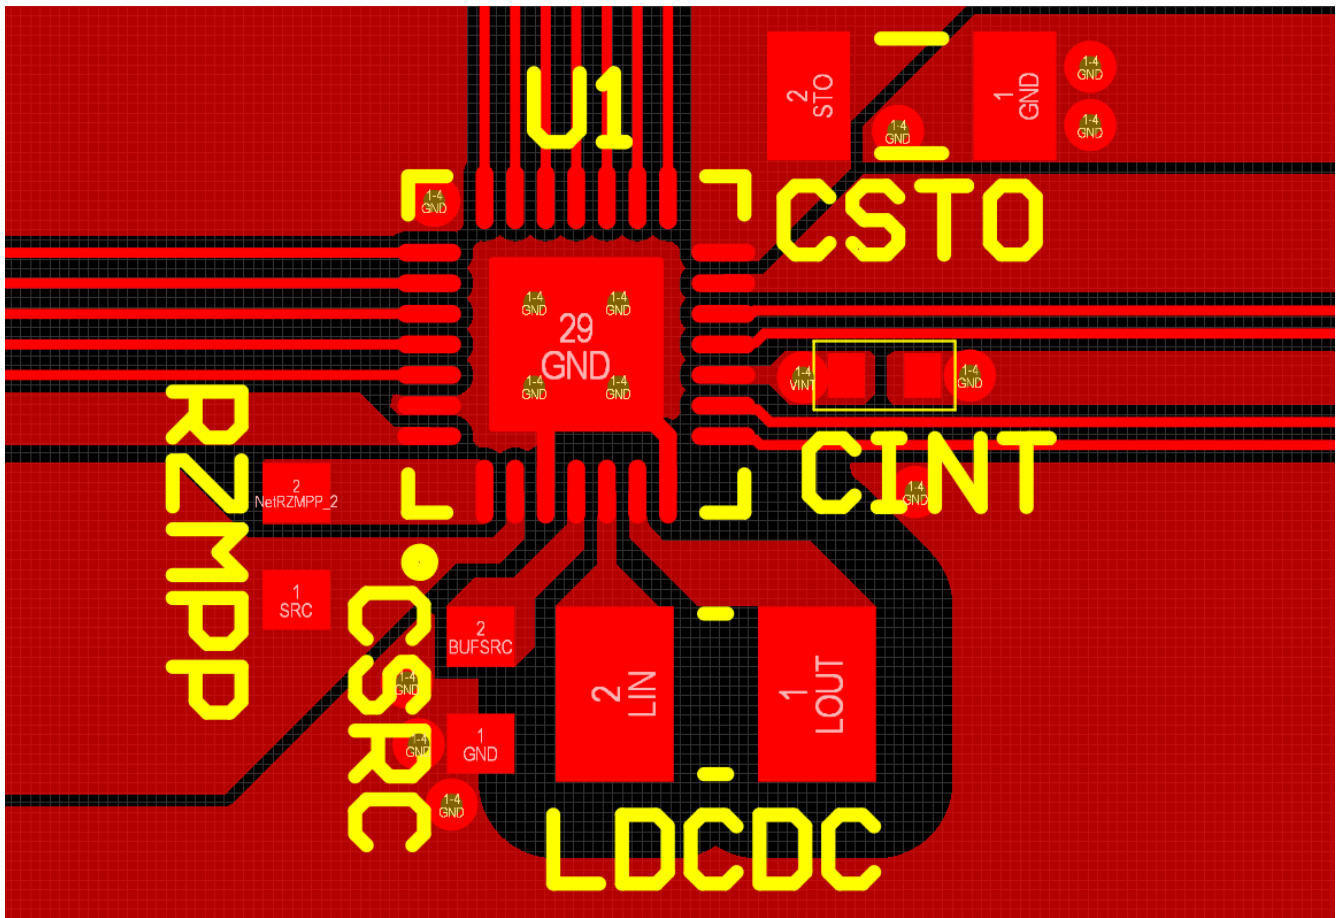

Figure 16: Layout Example for the AEM10300 and its Passive Components
- The switching nodes (LIN and LOUT) must be kept as short as possible, with minimal track resistance and minimal track capacitance. Low resistance is obtained by keeping track length as short as possible and track width as large as possible between L_{DCDC} and the AEM10300 pins. Minimal capacitance is obtained by keeping distance between LIN/LOUT and other signals. We recommend removing the ground plane, the power plane and the bottom layer ground pour under L_{DCDC} footprint, as well as adding distance between LIN/LOUT and the top ground pour, as shown on Figure 16.